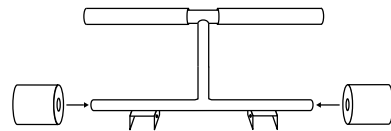
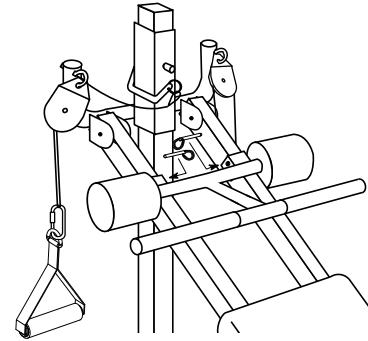

FIGURE 1
FIGURE 2
If the Stopper at the bottom of the Vertical Column has not already been installed, please do so now. Locate the Stopper which is packed in Miscellaneous Accessories (See Product Specifications on page 4 of this manual). Unscrew nut on the end of the Stopper and remove. Insert the Stopper into the hole located in the center of the Back Crossbar (See Figure 1). Screw the nut back onto the Stopper and tighten with Allen Wrenches provided (See Figure 2).
2. Then attach Foam Pads on the Crossbars as shown in Figure 1 on page 8. Let dry before beginning to exercise with the Multi Function Attachment.
3. Insert the 2 Large Hitch Pins through the holes on the Multi Function Attachment Brackets and the hole on the Rails, as shown in Figure 2 on page 8.